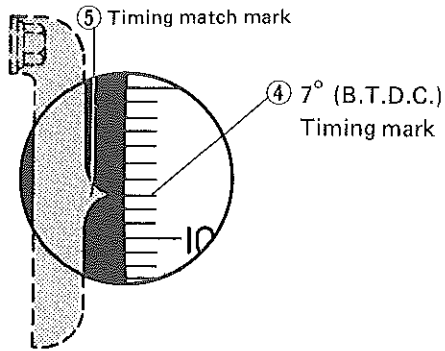

Fig. 9-22
Tie the light to No. 1 high-tension cord. Start up the engine and run it at a speed not higher than 900 r/min. Under this condition, direct the light to the flywheel. If the 7° timing mark ④ appears aligned to the timing match mark ⑤, the ignition is properly timed. See Fig. 9-22.